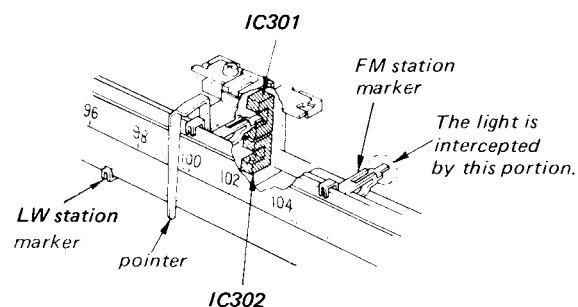

Fig. 2
- 3 Match the dial pointer to the desired station marker. (See Fig. 2)